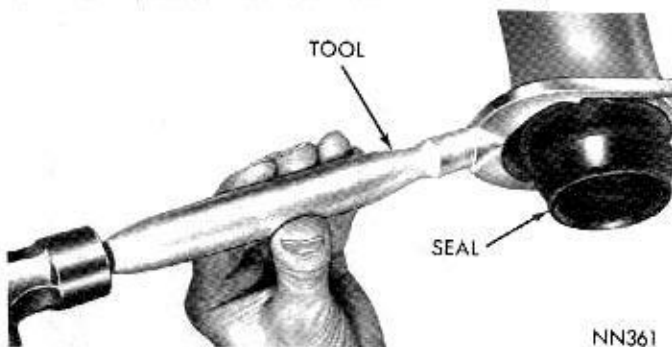

Fig. 11—Removing Extension Housing Yoke Seal
(1) Remove extension housing yoke seal (Fig. 11) with Tool C-3994.
(3) Remove extension housing yoke seal (Fig. 11) with Tool C-3994.